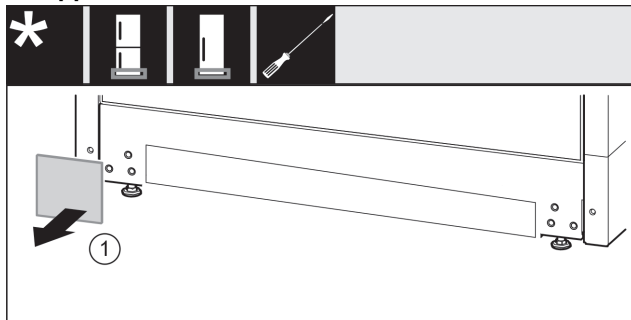

Fig. 16
- Remove the cover Fig. 16 (1).